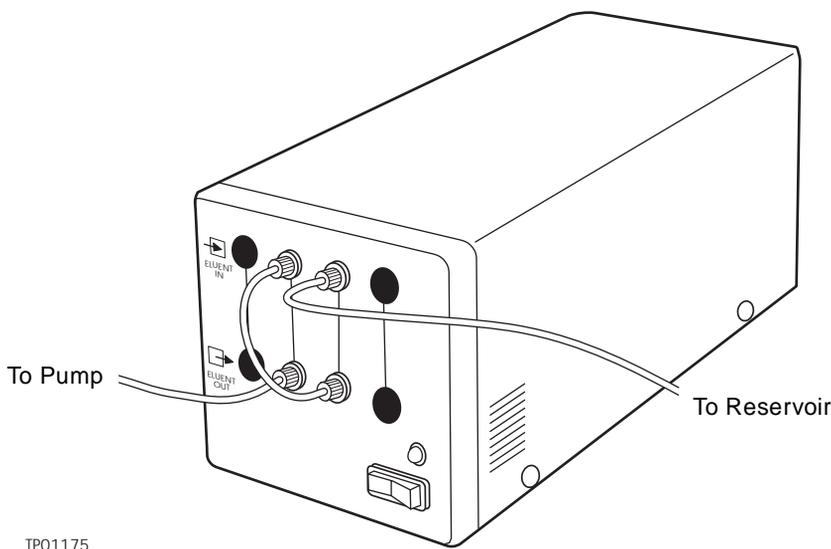

Figure 4-1 Two Vacuum Chambers in Series
5. Connect one end of the tubing to the outlet of the first vacuum chamber, as shown in Figure 4-1.
6. Connect the other end of the tubing to the inlet of the second vacuum chamber, as shown in Figure 4-1.